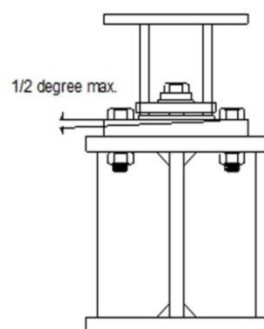
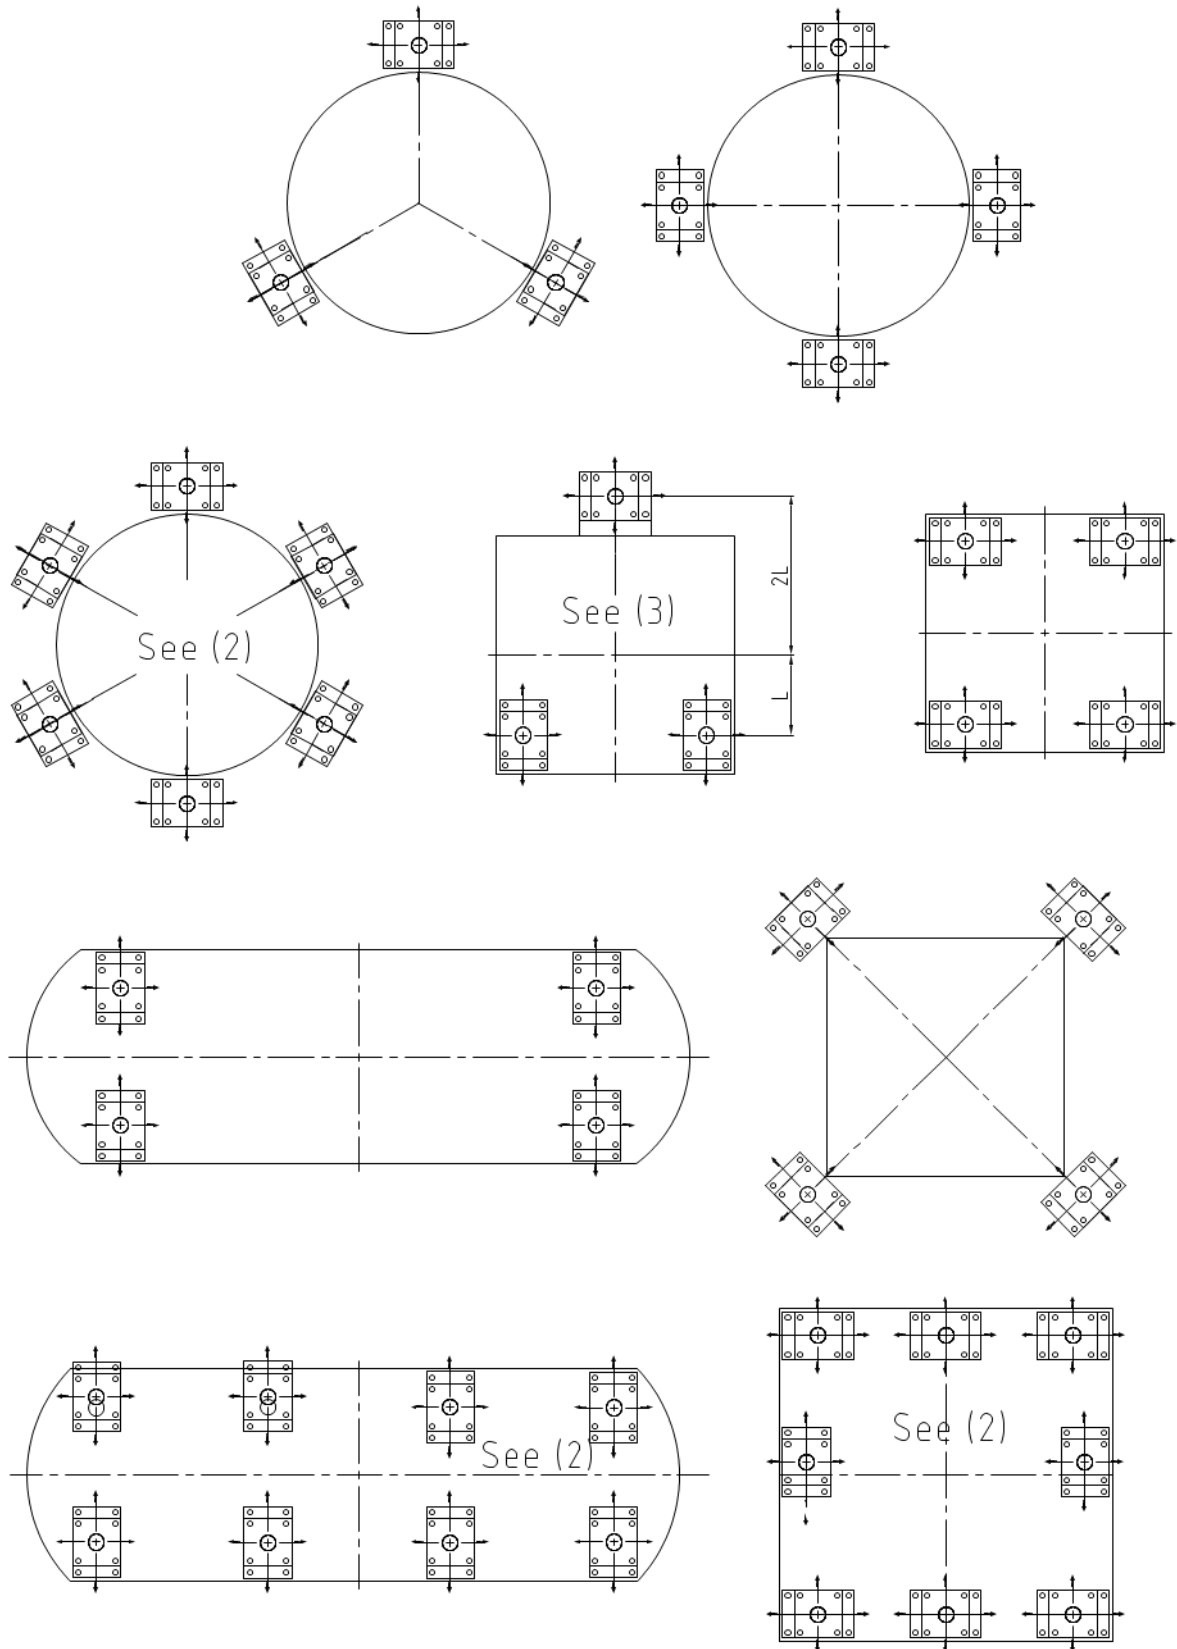
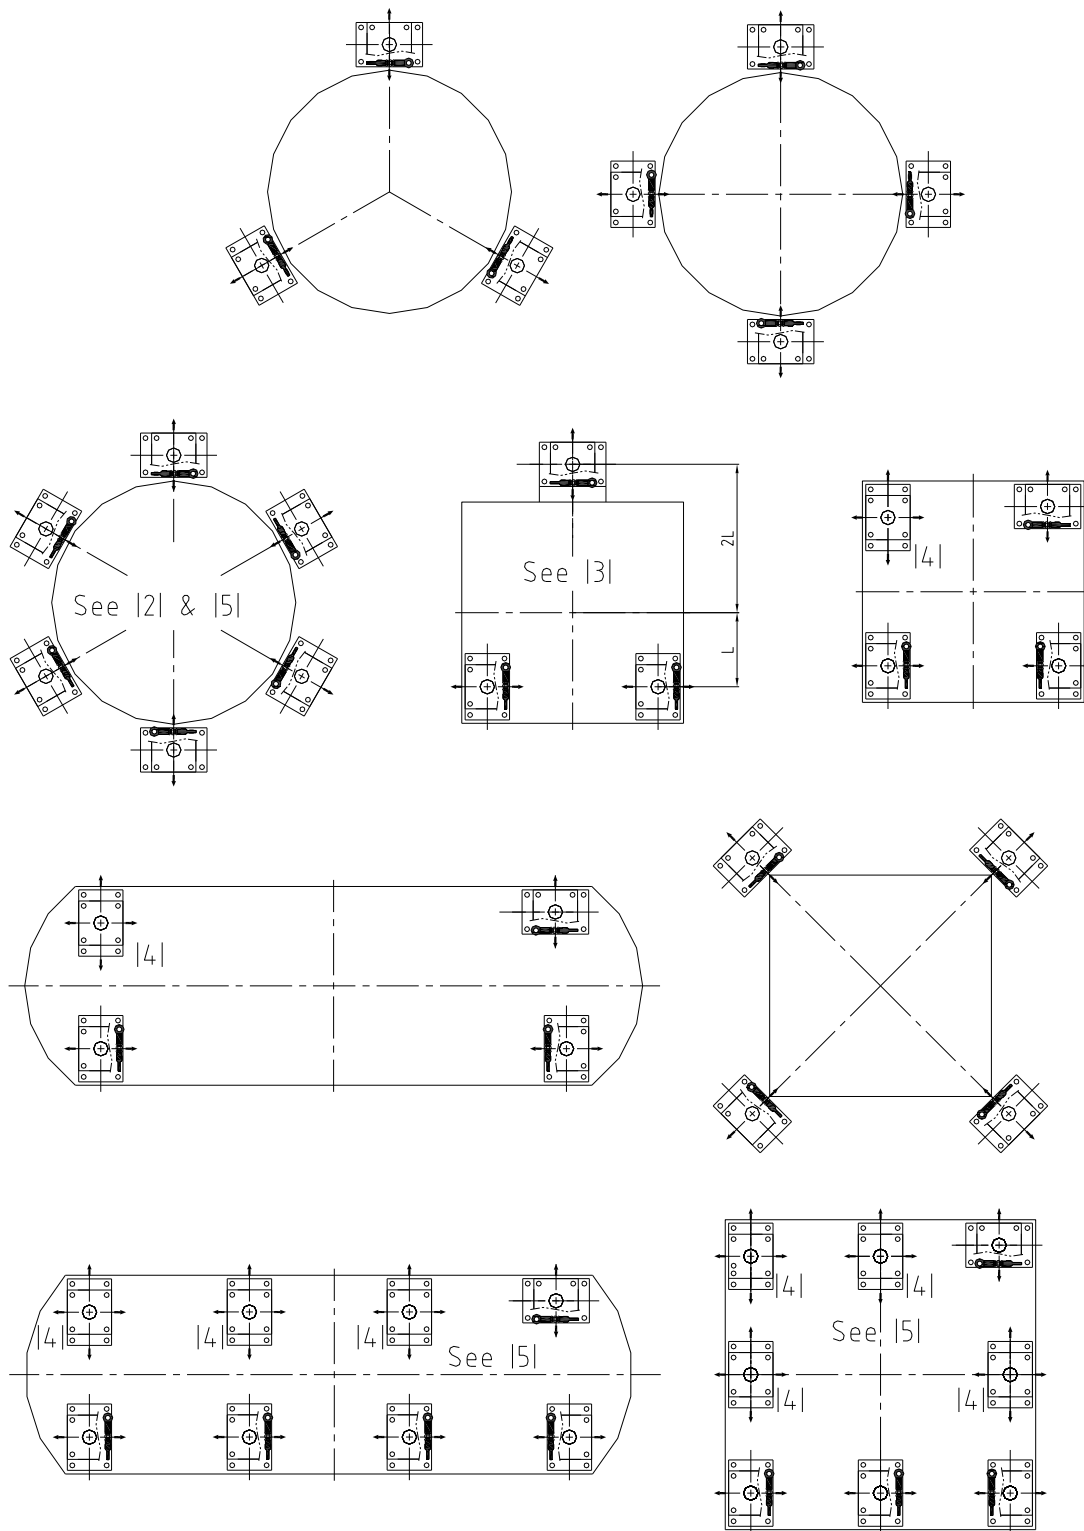

Figure 3-4: Level the Base Plate
Figure 3-5: Plan View of Mounting Arrangements without Stabilizers
Figure 3-6: Plan View of Mounting Arrangements with Stabilizers
3. Position a weigh module under each of the support points for the tank or scale structure. Each weigh module should support an equal portion of the total load and should be oriented as shown in Figure 3-5 (for weigh modules without stabilizers) or Figure 3-6 (for weigh modules with optional stabilizers). Stabilizers are used to stabilize a tank, for example when a mixer will cause the tank to oscillate. If there is a possibility of needing stabilizers in the future, install the weigh modules as shown in Figure 3-4.
4. Level each weigh module's base plate within $\pm 1/2$ degree in both longitudinal and transverse directions (see Figure 3-4). This equals an upward or downward slope of 1mm (1/32inch) per 100mm (4inches). Shim the base plates as necessary to level them. As long as the top plate is properly aligned and locked to the base plate, leveling the base plate should also level the top plate.
- The optional stabilizer can be fitted to the weigh module before or after the weigh module is installed. The stabilizer need to be fitted to side of the weigh module is most convenient. Note that the weigh modules must be arranged according to Figure 3-6 to avoid binding the scale.